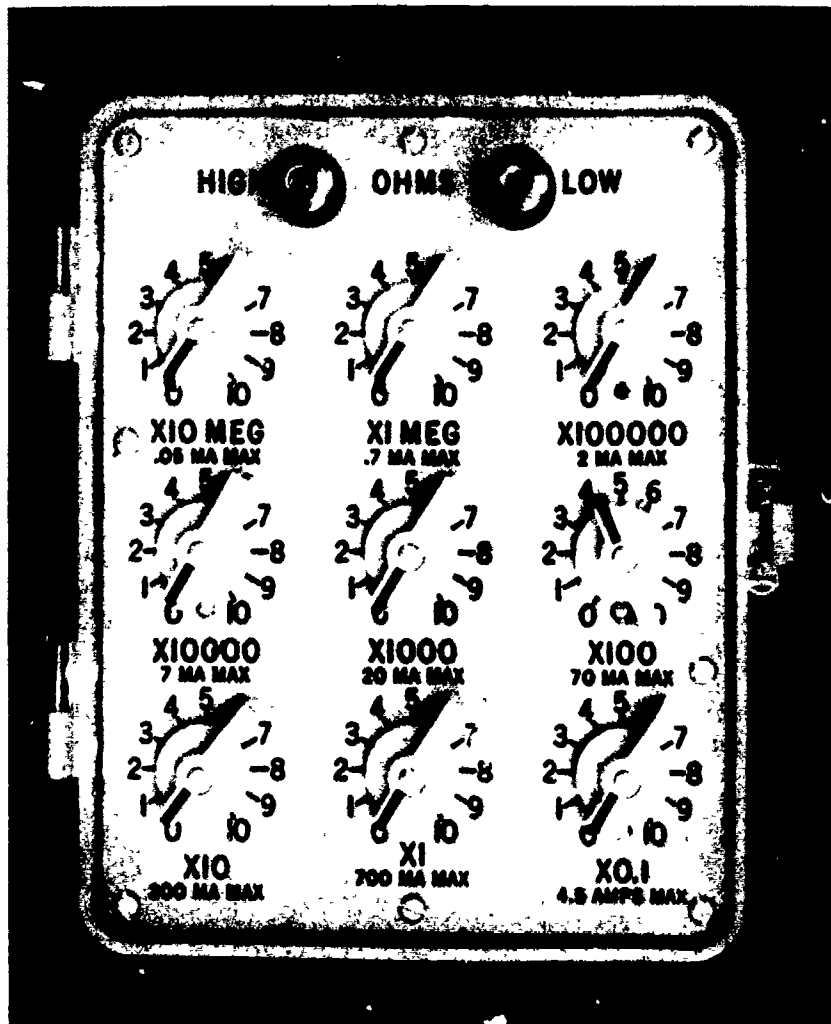

Figure 1.
2. After you do step 1, turn to figure 1 and compare your decade settings to it. They must be the same. If they are not the same, you may ask your instructor for assistance.